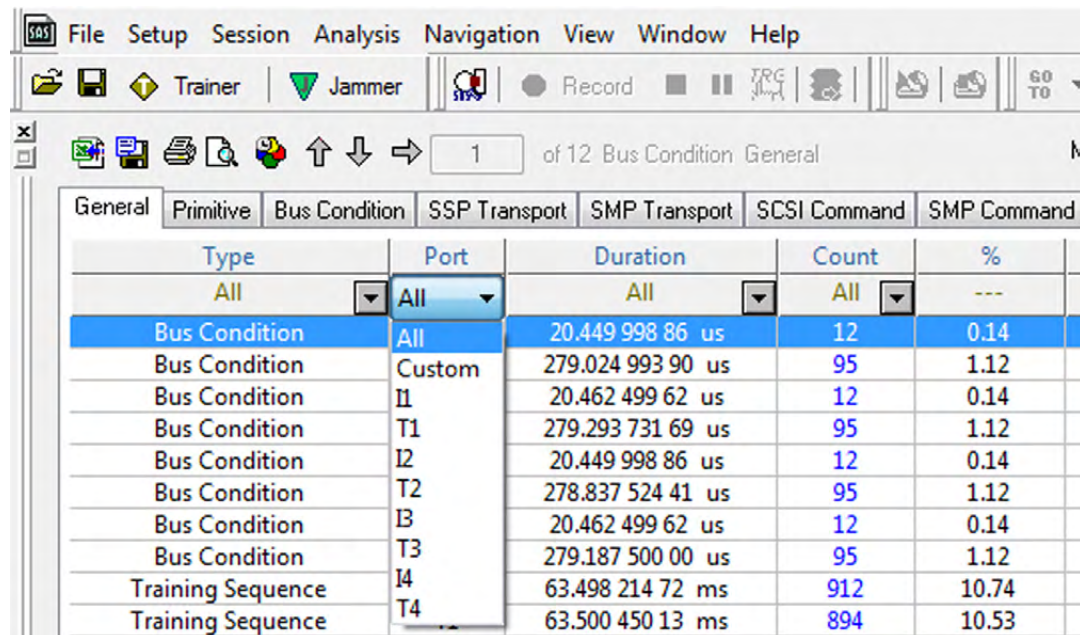

Figure 3.52: Statistical Report: General --> Port
- ❑ **Port**: All, Custom, I1, T1, I2, T2, I3, T3, I4, T4 (see Figure 3.52).
- ❑ **Port:** See Figure 3.52 on page 155 (All, Custom, I1, T1, I2, T2, I3, T3, I4, T4)